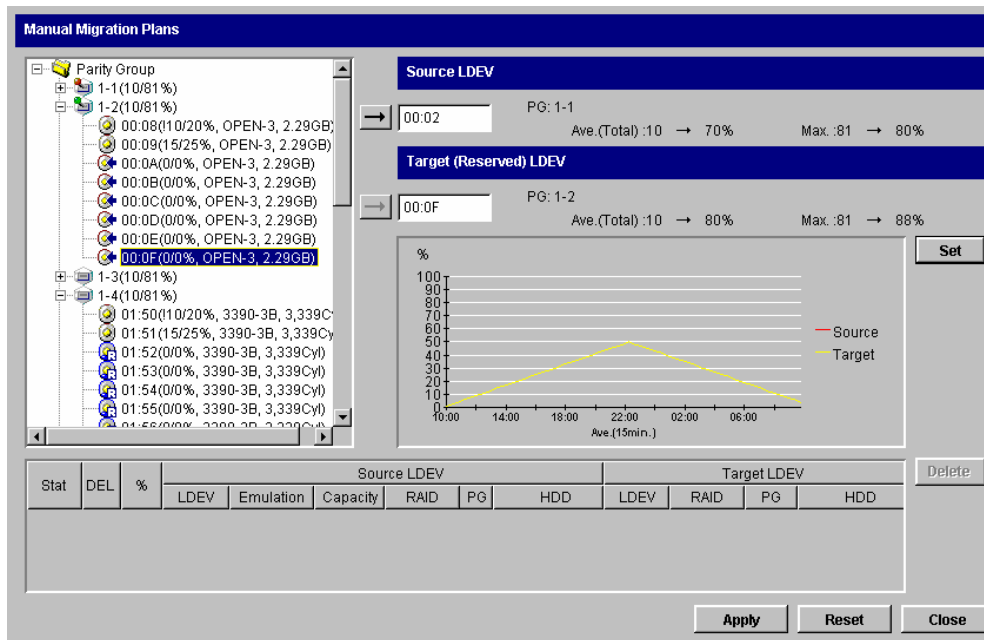

Figure 5.3 The Manual Plan Tab
2. From the CruiseControl™ panel, click the **Manual Plan** tab (see Figure 5.3).